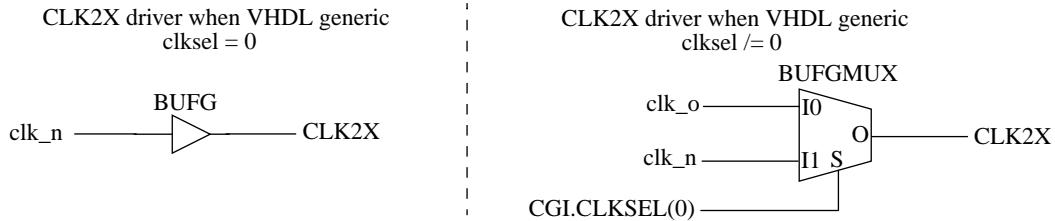
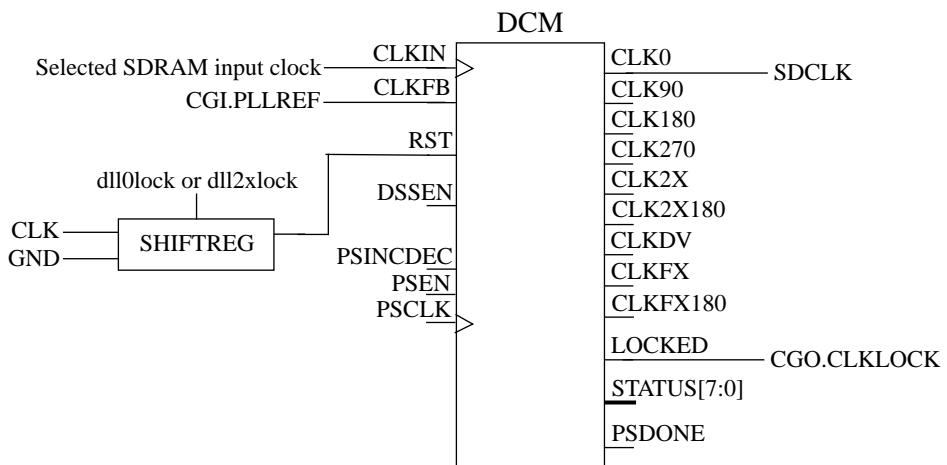

Figure 56. Spartan 3/e selection of CLK2X clock when VHDL generic *clk2xen* is non-zero
Figure 59. Spartan 3/e generation of SDRAM clock
shift register connected to the CLK2X DCM's RST input are set to '1'. When the dll0lock signal is asserted it will take four main clock cycles until the RST input is deasserted. Depending on the value of the *clksel* VHDL generic the core's CLK2X output is either driven by a BUFG or a BUFGMUX. Figure 56 shows the two alternatives and how the CGI.CLKSEL(0) input is used to selected between the CLK0 and CLK2X output of the CLK2X DCM.
If the SDRAM clock is enabled, via the *sramen* VHDL generic, and the clock generator is configured to use clock feedback the DCM shown in figure 59 is instantiated. This DCM has the same attributes as the CLK2X DCM. The input to the SDRAM DCM input clock is determined via the *clk2xen* VHDL generic. If the VHDL generic is set to 0 the input is the main CLK, if the generic is set to 1 the input is the *clk_p* out of the CLK2X DCM shown in figure 56. If the *clk2xen* VHDL generic is set to 2 the clock input to the SDRAM DCM depends on the *clksel* VHDL generic. The input in this last case is the CLK2X output shown in figure 58.
If the SDRAM clock is disabled (*sramen* VHDL generic set to 0) or the core has been configured not to use clock feedback (*noclockfb* VHDL generic set to 1) the driver of the core's SDCLK output is determined by the value of the *clk2xen* VHDL generic. If the *clk2xen* VHDL generic is set to 2, the SDRAM clock output is the same as the CLK2X output shown in figure 56, in other words it also depends on the *clksel* VHDL generic. If the *clk2xen* VHDL generic has any other value the SDCLK output is the same as the core's CLK output.